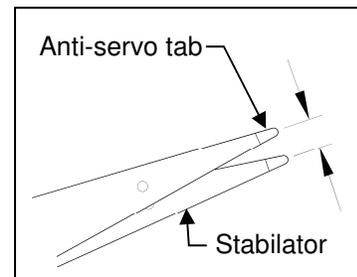

FIGURE 3: AST TAB MEASUREMENT
- Distance from center of AST (Anti-Servo Tab) T.E. at one outboard tip to the center of adjacent stabilator T.E.: _____ (nominal distance: 9/16 inch [14.29mm]) See Figure 3.
- Distance from center of AST T.E. to center of stabilator T.E.: _____ (nominal distance: 3/8 inch [9.5mm]) See Figure 3.
- Distance from center of AST T.E. to center of stabilator T.E: _____ (nominal distance: 2.0 inches [50.8mm]) See Figure 3.